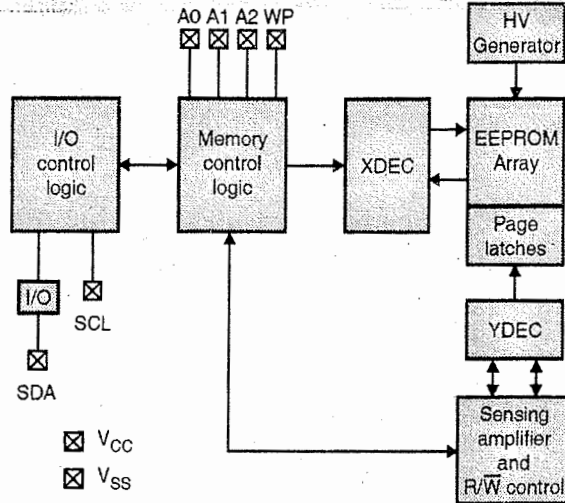

Fig. 14.12.1 : Block diagram of 24LC128
- Fig. 14.12.1 shows the block diagram of 24LC128.